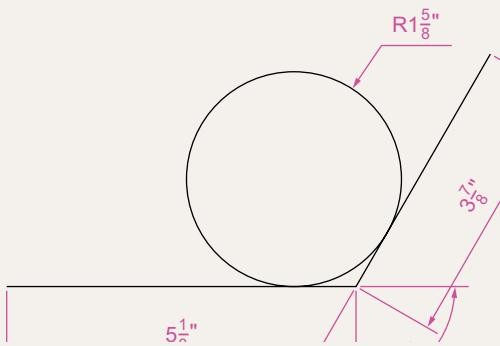

Fig. 2.33 Exercise 6
6. Using the Line tool, construct the two lines at the length and angle as given in Fig. 2.33. Then with the Ttr prompt of the Circle tool, add the circle as shown.